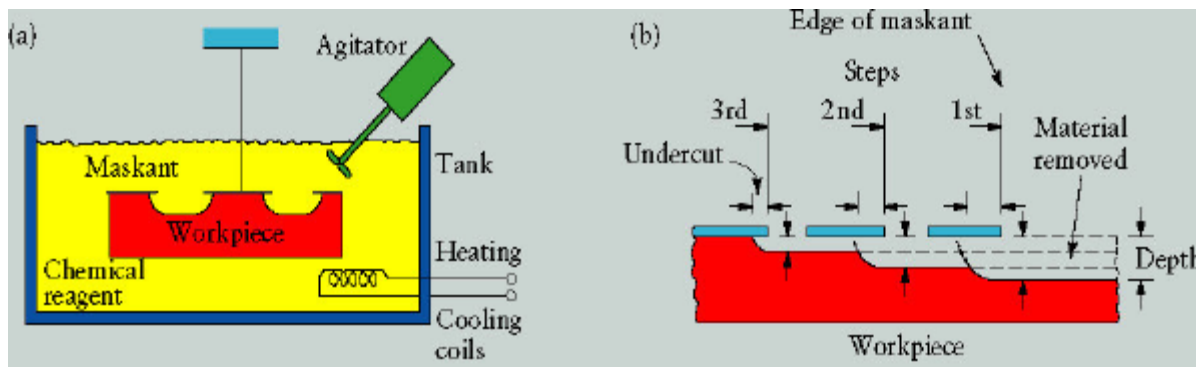

Figure 6: (a) Schematic of chemical machining process (b) Stages in producing a profiled cavity by chemical machining (Kalpakjain & Schmid)
Chemical machining (CM) is the controlled dissolution of workpiece material (etching) by means of a strong chemical reagent (etchant). In CM material is removed from selected areas of workpiece by immersing it in a chemical reagents or etchants; such as acids and alkaline solutions. Material is removed by microscopic electrochemical cell action, as occurs in corrosion or chemical dissolution of a metal. This controlled chemical dissolution will simultaneously etch all exposed surfaces even though the penetration rates of the material removal may be only 0.0025–0.1 mm/min. The basic process takes many forms: chemical milling of pockets, contours, overall metal removal, chemical blanking for etching through thin sheets; photochemical machining (pcm) for etching by using of photosensitive resists in microelectronics; chemical or electrochemical polishing where weak chemical reagents are used (sometimes with remote electric assist) for polishing or deburring and chemical jet machining where a single chemically active jet is used. A schematic of chemical machining process is shown in Figure 6.